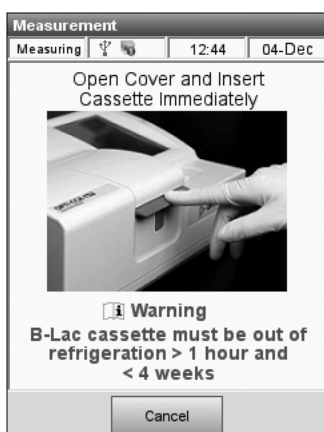

Fig. 5-9 B-Lac Open Cover
- Open the sample chamber cover by pressing down on the center of the red latch (Fig. 5-9).
NOTE: For B-Lac cassettes, out-of-storage warnings will be displayed (Figs. 5-9 - 5-11). This function is enabled by default and can be disabled in the System>Setup menu (see Section 3.2.2.2.)